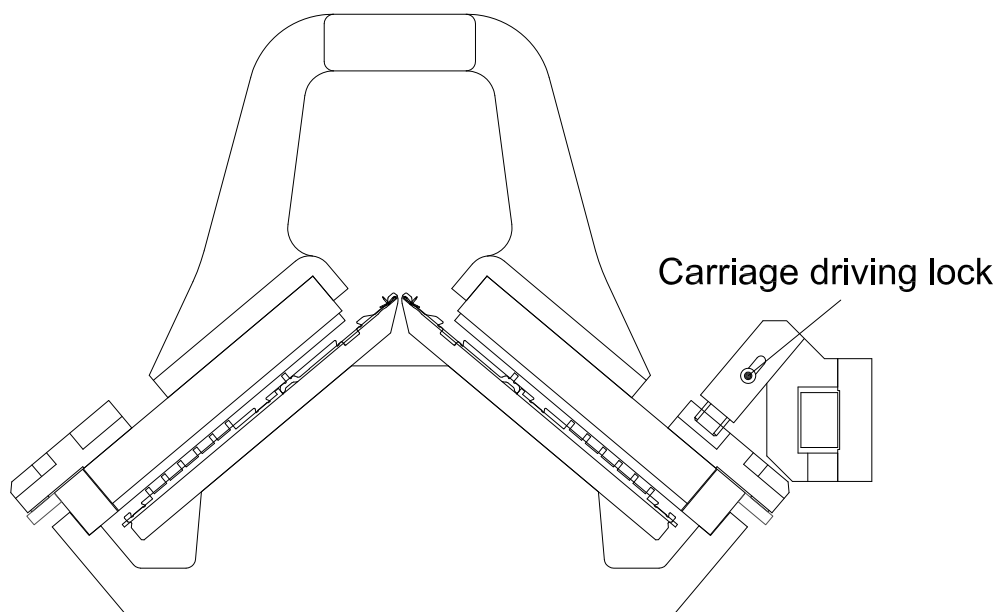

Fig. 6.1 Remove the carriage
- 3) Remove the lock as shown in Fig. 6.1 and remove carriage carefully.